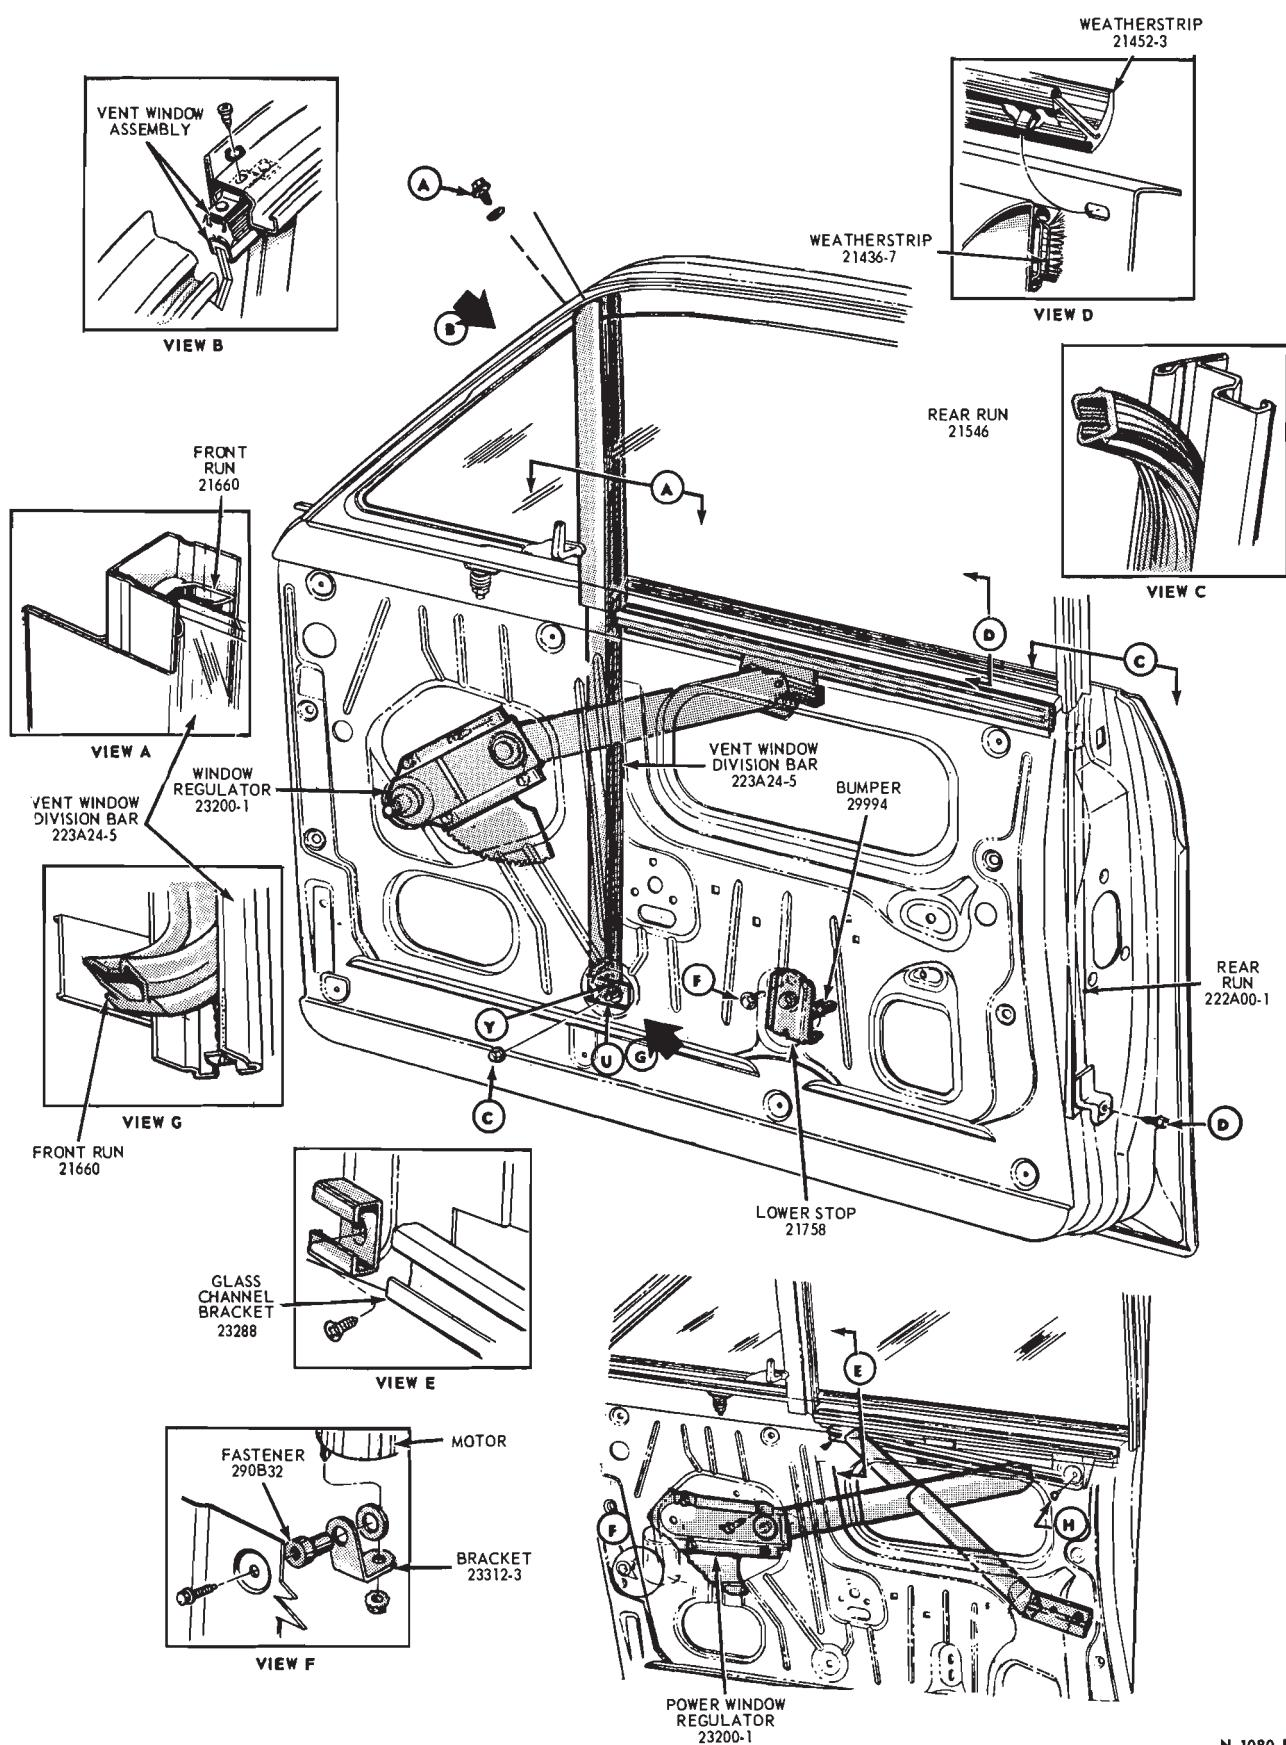

FIG. 7—Front Door Window Mechanism—Fairlane and Montego Model 71
- To obtain proper alignment of the rear run to the vent window division bar and front run, loosen the nut and washer assembly (Figs. 7 and 8) and the screw.
- Lower the glass until the top edge of the glass is four inches above the belt line. Turn the screw (Figs. 7 and 8) clockwise or counterclockwise as required to bring the front run into alignment with the rear run. Then, tighten the nut and the screw to 8-23 ft-lb torque.
- To obtain a flush condition between the top edge of the glass and the belt line when the glass is down, loosen the two lower stop attaching screws (Figs. 7 and 8).
- Move the glass to a flush position with the belt line. Then, position the lower stop against the glass channel and tighten the attaching screws (Figs. 7 and 8) to 8-23 ft-lb torque.
2. Remove the lower stop from the door (Fig. 7).
3. Remove the vent window division bar lower adjusting screw and nut (Fig. 7).
nut (Figs. 7 and 8).
3. Position the glass and channel assembly in the door and insert the regulator arm roller in the glass channel bracket (Figs. 7 and 8).
4. Remove the motor bracket-to-door inner panel attaching screw (Figs. 7 and 8).